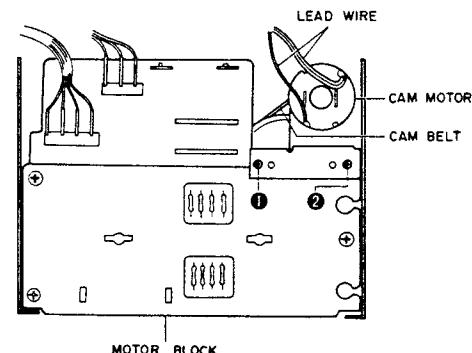

Fig. 3-8
- 3) Remove cam motor base screws ⑥ and ⑦ from the motor block. (Refer to Fig. 3-8)